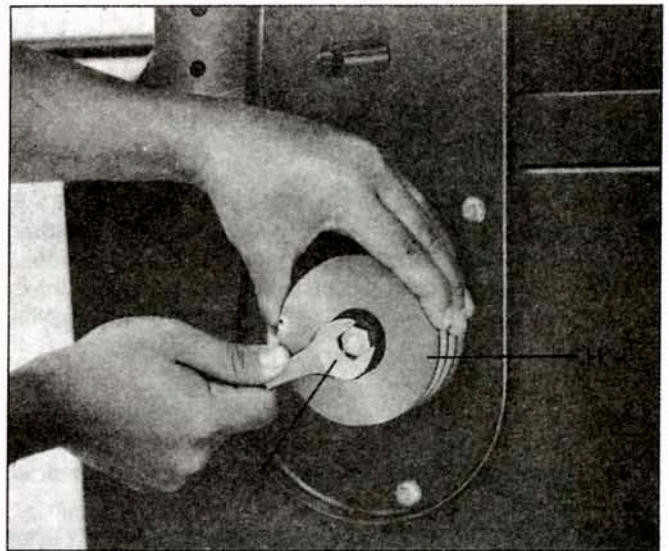

Fig. 9
1. Assemble the motor pulley to the motor shaft with the key and tighten the screw in the motor shaft, as shown in Fig. 9.